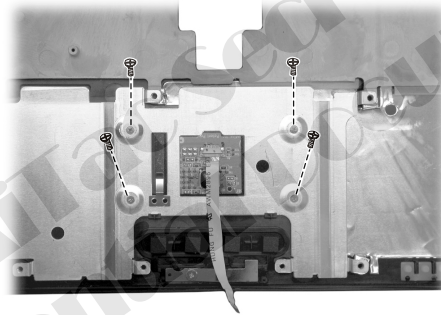

Figure 2-29 Free the touch pad
2. Remove the four screws and lift the shielding, then free the touch pad. (Figure 2-29)